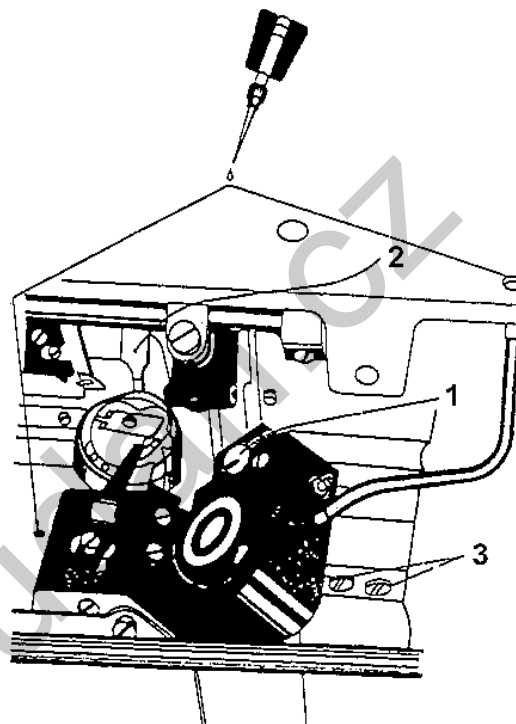

Fig. 2
6. To adjust the hook lubrication (Fig. 2)
10. To adjust the hook holder (Fig. 2)